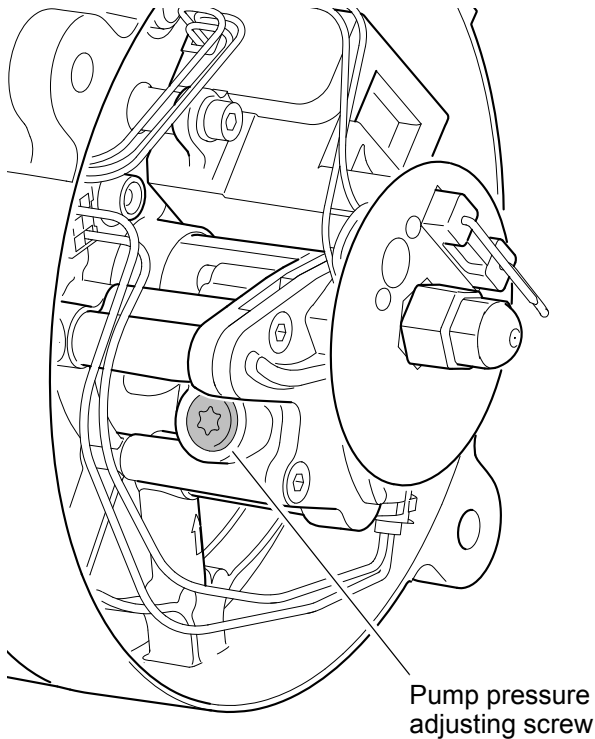

Fig. 510
**If the specified pressure cannot be reached, it can be readjusted. For that rotate the adjusting screw (see Fig. 510) max. one revolution. If the prescribed pressure despite readjustment not be achieved or occur leaks, the fuel pump must be replaced.**